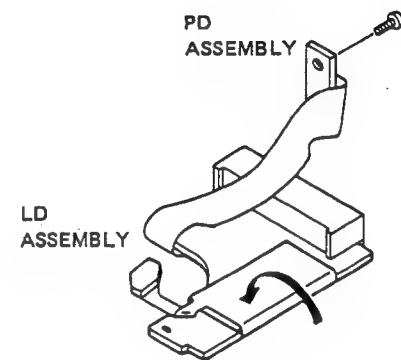

Fig. 1
1. Bend as shown by the arrow in Fig. 1 and fasten using double-sided tape and adhesive.
2. With the flexible parts bent as shown in Fig. 1, mount on the pick-up.